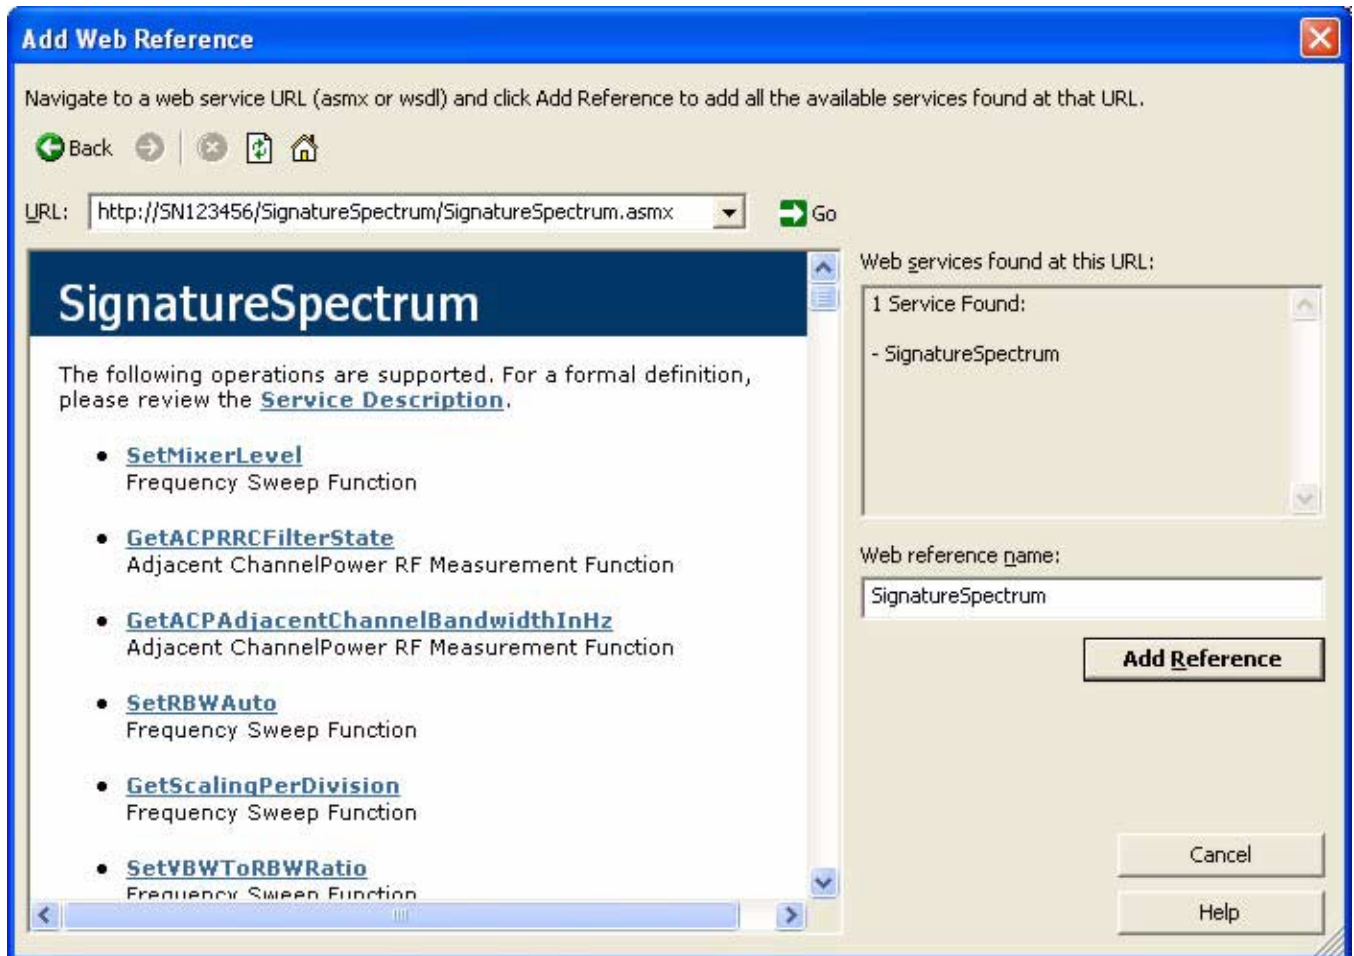

Figure 1-20. Add Web Reference Dialog
- Step 2.** On the resulting pop-up dialog, click on *Add Web Reference* to open the Add Web Reference dialog shown in Figure 1-20 below: